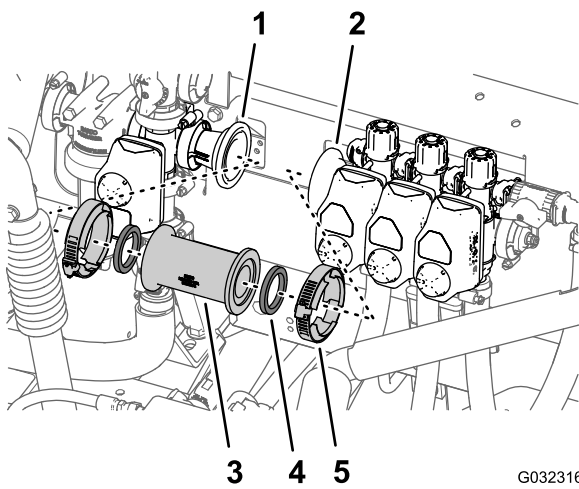

Figure 45
2. Remove the 2 flange clamps that secure the straight coupler to the adapter couplers at the agitation valve and left boom-section valve (Figure 45).
- Remove the straight coupler and 2 gaskets from the machine (Figure 45).